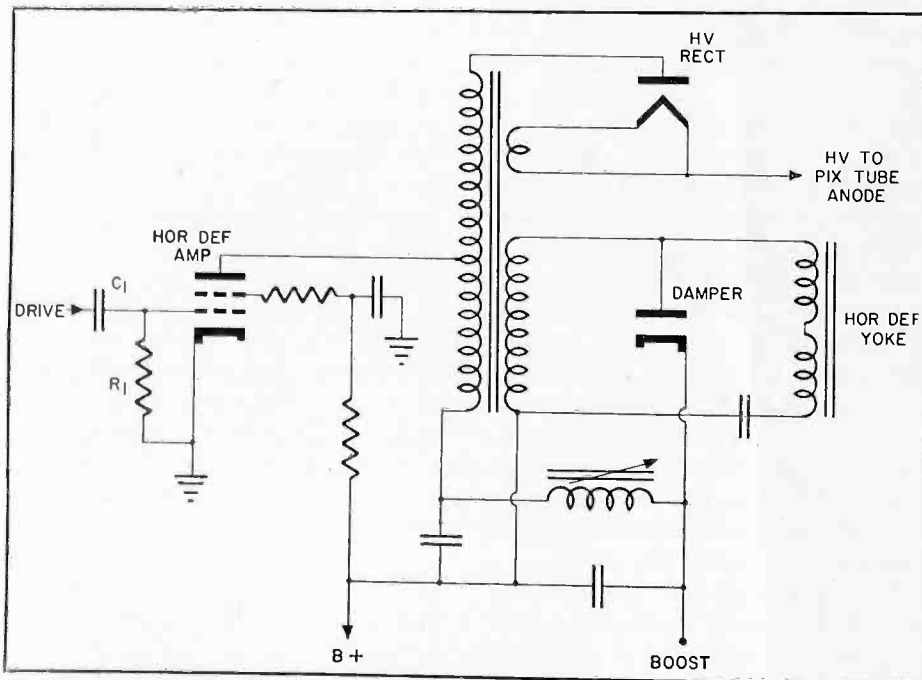
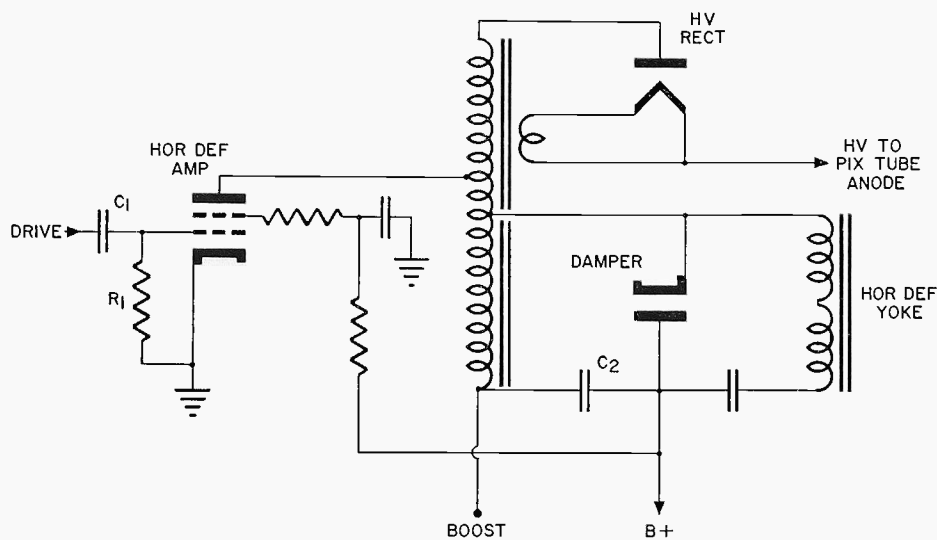

FIGURE 1—Flyback Circuit Employing Separate Winding Type Transformer.
FIGURE 2—Flyback Circuit Employing an Auto Transformer.
Figure 1, right, shows the old-style, flat-press stem construction. Note that the leads are small in diameter and closely spaced. Figure 1, left, shows the new wafer stem construction utilized extensively by Sylvania not only on deflection tubes but on upgraded versions of practically all old GT type tubes. The circular pin arrangement of the wafer stem allows the use of larger diameter lead wires with greater spacing between the wires. These features are also clearly shown in Figure 2. The larger lead wires provide for greater heat conduction away from the tube elements while the wider lead spacing reduces the voltage gradient between leads. These two advantages of the wafer stem have eliminated the problem of stem electrolysis.
FIGURE 1—SHORTER, MORE RUGGED MOUNT. Added support, shorter construction, and larger diameter leads are clearly visible in the mount employing a wafer stem, left, as compared to the press stem mount shown on the right.
**FIGURE 2—REDUCED GLASS ELECTROLYSIS AND ARCING.** Wafer stem construction is shown on the right, the old press stem construction on the left. It is readily seen that the wafer stem leads are farther apart which (coupled with cooler operation resulting from heavier, shorter leads) reduces glass electrolysis and arcing.
is the conventional flyback transformer which is easily identified by the separate windings for the damper and deflection yoke, Figure 1. The second is the direct drive or auto type flyback transformer, Figure 2. The principle of operation is very similar for both types. A few special notes, however, will clarify the basic circuit differences. (1) The conventional flyback transformer applies a negative pulse to the plate of the damper and the boosted B+ voltage is taken from the cathode. (2) The direct drive type of flyback transformer (auto) applies a positive pulse to the cathode
Now let us consider the operation of a typical horizontal deflection circuit employing an auto type flyback transformer, Figure 2. The waveshape of the driving voltage is the familiar sawtooth, common to the application, Figure 3A. Operating bias is developed by the tube; that is, the input signal drives the grid slightly positive, thus causing current to flow from the cathode to the grid and through the grid resistor,  $R_1$ . The resulting voltage drop across  $R_1$  charges the coupling capacitor,  $C_1$ , in a manner such that the d c operating level of the grid is negative with respect to the cathode.
It should be noted that the cathode of the horizontal deflection amplifier shown is grounded directly, Figure 2. In the absence of drive, in such a case, the tube would be operating without bias, resulting in excessive plate and screen current. In many circuits a protective bias voltage is provided by the incorporation of a cathode resistor. This arrangement limits the current flow to a safe value should grid excitation not be present.
cathode a c fed. Under these conditions the tube will conduct when the a c voltage on the cathode swings negative with respect to the plate. When conduction occurs, capacitor  $C_3$  becomes charged and the positive rectified voltage then appears at the cathode. Since the plate of the rectifier tube is already at B+ potential, effectively there are two supplies connected in series. Thus, the sum of both the rectified a c voltage and the battery B+ voltage will be present across the load resistor,  $R_L$ . In the actual flyback circuit, Figure 2, the negative portion of the ringing sinewave voltage is rectified by the damping diode and appears as a d c voltage across the boost capacitor ( $C_2$ ). This voltage is called the boost voltage and the sum of the boost voltage and the sum of the boost voltage and B+ (boosted B+) is used in many makes of television receivers to (1) supply the first accelerating anode voltage to the picture tube, (2) supply the vertical and/or horizontal oscillator plate voltages, (3) supply the vertical deflection amplifier plate voltage, as well as supply a higher voltage to the plate of the horizontal deflection tube.
The flyback transformer has still another important requirement in the television receiver. It supplies the high voltage to the picture tube anode. We previously mentioned that a high voltage pulse (Figure 3E) is generated by the flyback transformer during the retrace time. This pulse, when stepped up and rectified, is the source of high voltage for the picture tube. Step up of the pulse is accomplished by an additional auto transformer winding which is placed on the flyback transformer in series with the horizontal amplifier plate winding, Figure 2. The filament supply for the high voltage rectifier is ordinarily obtained by a single turn of wire wrapped around the core of the flyback transformer. Since the power requirements of the filament are usually low, this arrangement does not affect the operation of the flyback transformer.